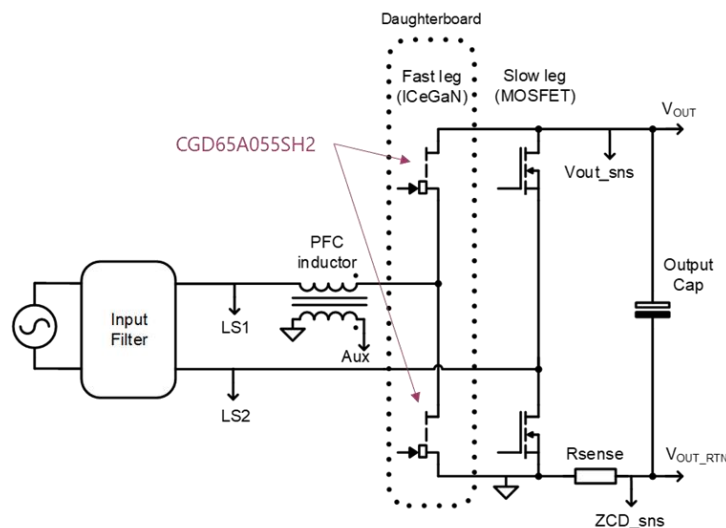

Figure 1 – CGD 350 W TPPFC EVB functional schematic
The NCP1680 controller requires a current sense resistor placed between the negative terminal of the electrolytic bulk capacitor and the source of the low-side MOSFET and ICeGaN device, see Figure 1. This resistor is called R_{ZCD} and it is formed by the parallel combination of R42, R44 resistor. It is used for zero current detection and overload detection. For more details check the NCP1680 datasheet.
6. R_{ZCD} physically separates GND and VOUT_RTN pins, and it is illustrated as R_{SENSE} in Figure 1. GND is considered the 0-V reference and VOUT_RTN corresponds to the negative terminal of the electrolytic capacitor in the output. Care must be taken to avoid shorting the R_{ZCD} resistor involuntary with the test equipment. For example, the ground leads of an Earth-connected oscilloscope probe must not be simultaneously connected to both GND and VOUT_RTN. This is particularly important if the user wants to measure with the oscilloscope the output voltage and other signals at the same time.